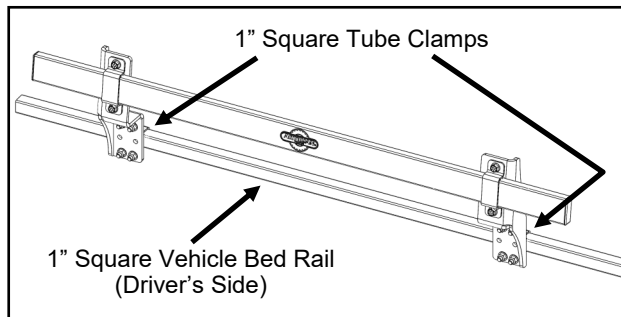

Fig. 5
5. Use the 1" square tube clamps (provided) to clamp the mounting brackets to the tube. Ensure that mounting brackets are level to each other, perpendicular to the bed rail, and not touching the plastic. Tighten fasteners using an alternating pattern. See Fig. 5